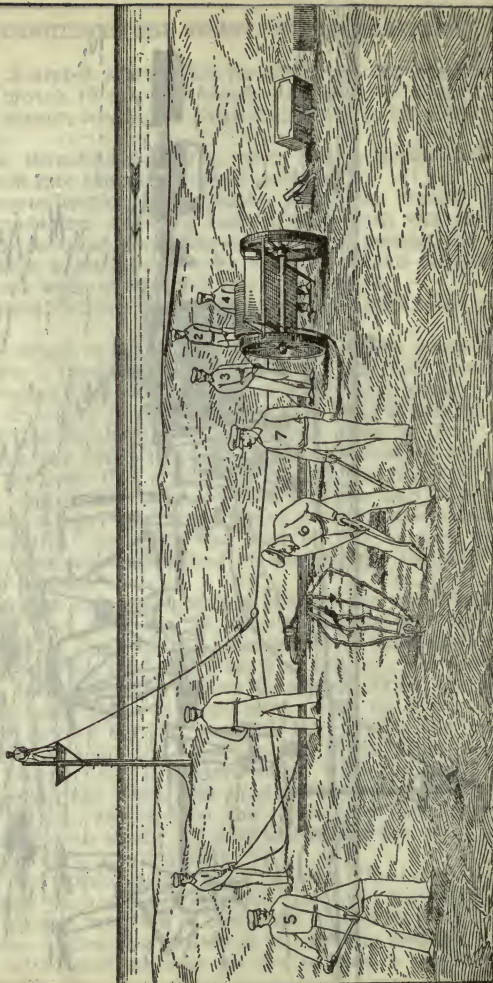

FIG. 7.—Hauling off whip.
(12) The officer in charge makes a signal to the wreck to haul on board; No. 1 tends to the left and No. 2 the right part of the whip, separating them a distance of 50 or more yards; Nos. 3 and 4 haul the whip from the reel as fast as it is needed, No. 3 standing on the left, No. 4 on the right. (See fig. 7.)